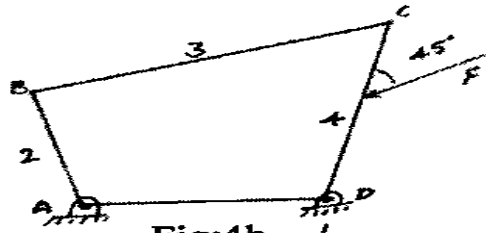

Fig:4b
- b. In the Fig. 4b, a four bar mechanism is shown. Calculate the required of T_2 and various forces on links for the equilibrium of the system. $F = 2000$ N, $AD = 215$ mm, $AB = 200$ mm, $BC = 370$ mm, $DC = 350$ mm, $CE = 100$ mm.